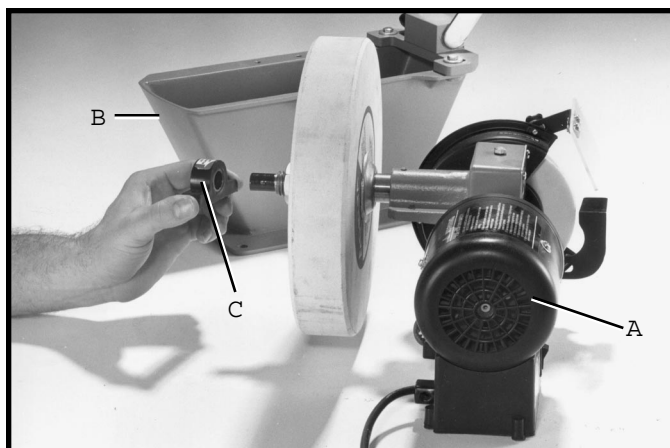

Fig. 20
Lift the complete motor assembly (A) Fig. 20, off the base casting (B). Remove bearing block (C) from end of shaft.